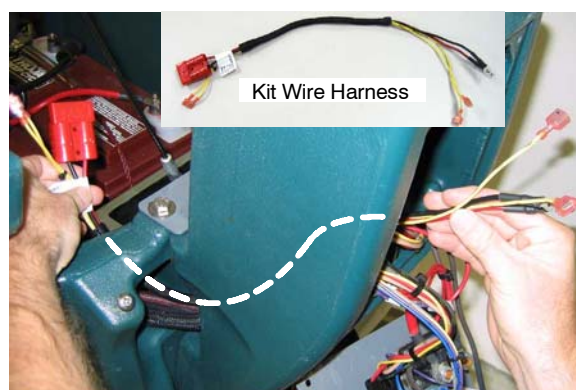

**Fig. 5a**
5. Remove roller switch from squeegee lift bracket and disconnect wires from switch (Fig. 5a). Route the two yellow wires up into the control console (Fig. 5b).